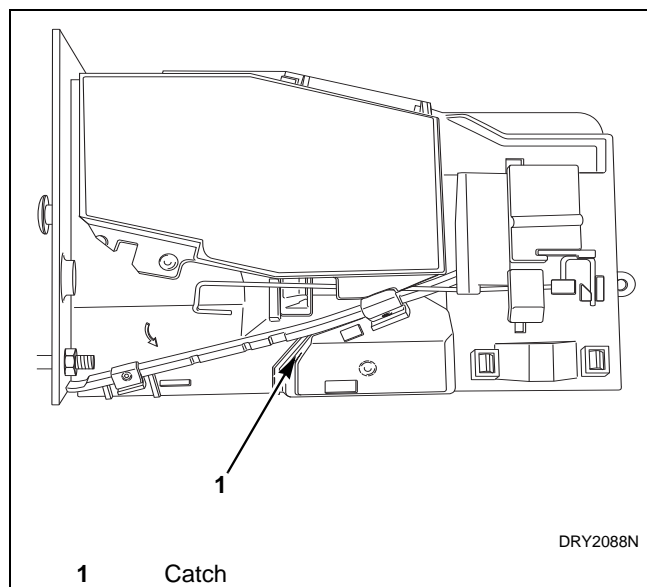

Figure 10
- a. Move spring downward until cover catch is free. Refer to *Figure 10*.